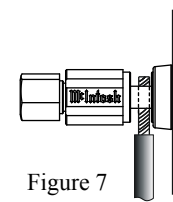

Figure 7
14. Connect the Loudspeaker hookup cables to the MC601 Negative Output Terminal and Positive Output Terminal identified as 2Ω (ohms), 4Ω (ohms) or 8Ω (ohms) connection to match the impedance of the Loudspeaker, being careful to observe the correct polarities. Insert the spade lug connector or prepared section of the cable end into the terminal side access hole, and tighten the terminal cap until the cable is firmly clamped into the terminals so the lugs or wire cannot slip out. Refer to figures 7 and 8.